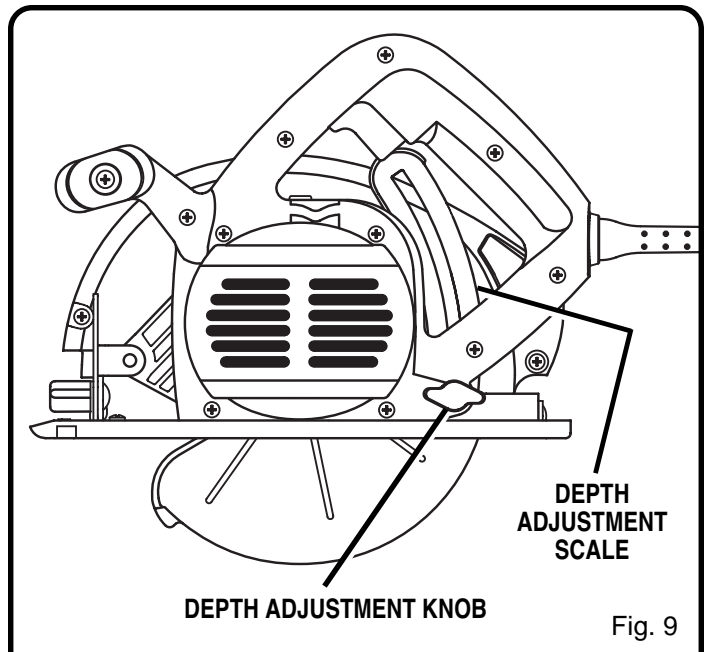

Fig. 9
- Loosen depth adjustment knob. *See Figure 9.*